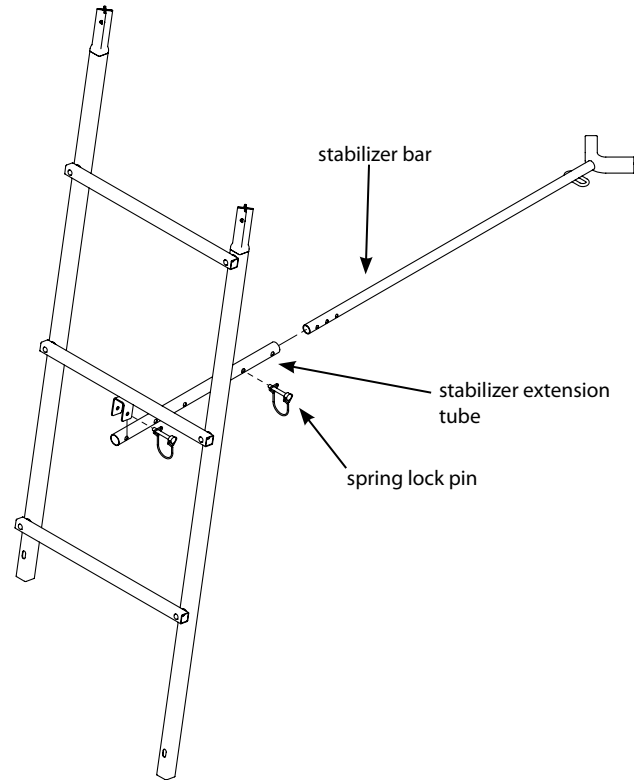

Figure 8
12. a. Attach the stabilizer bar extension tube (410075) to the second ladder section mounting bracket using (1) provided spring lock pin. **SEE FIGURE 8.**
b. Slide the stabilizer bar (410073) into the extension tube and attach the two pieces together using (1) provided spring lock pin. Spring lock pin must go through both the extension tube and stabilizer bar at appropriate hole to achieve desired distance from tree. Adjustment in length may be needed when ladder is uprighted later in instructions. **SEE FIGURE 8.**